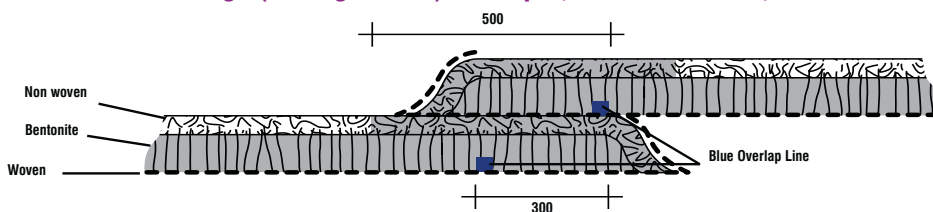

Figure 5. Edge (or longitudinal) overlaps, with self-sealing edges - X800, X1000, X2000, X3000 (X1000 Shown)
1. During the ELCOSEAL® manufacturing process, bentonite powder is encapsulated into the upper nonwoven geotextiles along the edges of each roll. Subsequently, the Edge (or longitudinal) overlaps do not require any additional treatment. See Figure 5.